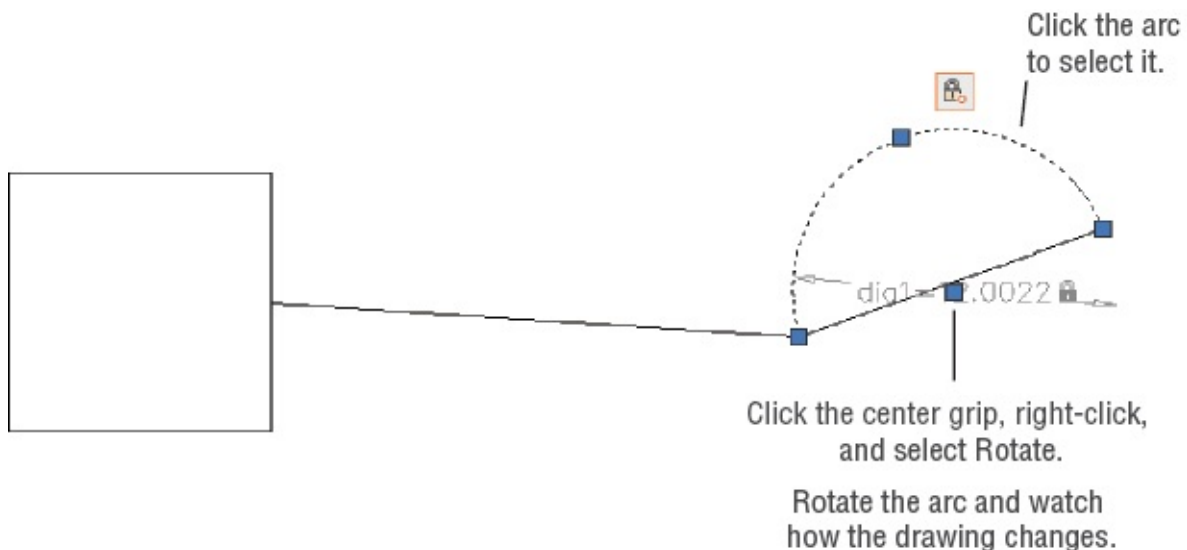

FIGURE 16.25 The piston drawing in motion
2. Click the arc in the right side of the drawing (see Figure 16.25).